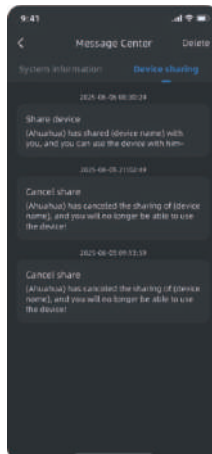

Figure 3
3) Figure 3: Display device sharing messages.